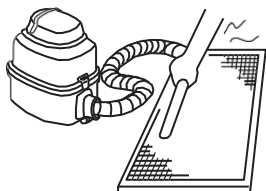

Fig. 1
- The air-in side should face up when using vacuum cleaner (see Fig. 1).